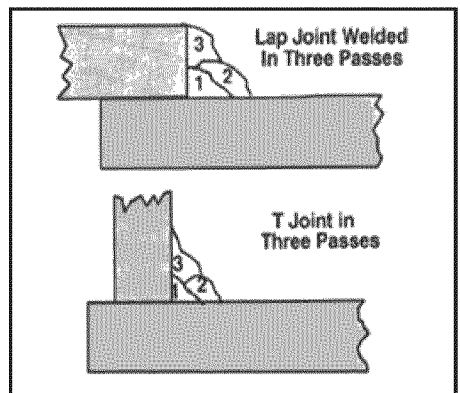

Fig. 12
- **FILLET WELD JOINTS.** Most fillet weld joints, on metals of moderate to heavy thickness, will require multiple pass welds to produce strong joint. The following figure will show the sequence of laying multiple pass beads into a T fillet joint and a lap fillet joint. (Fig. 12)